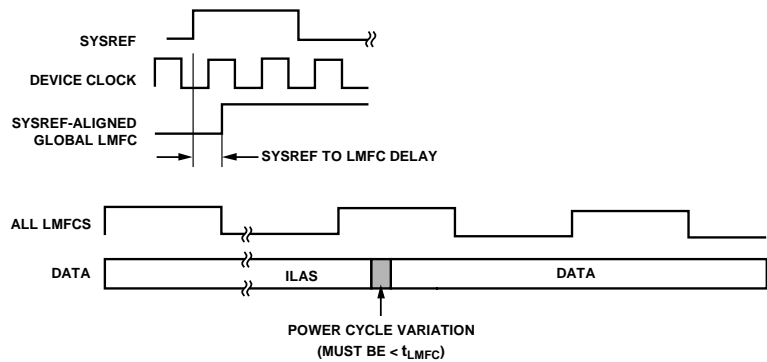

Figure 94. SYSREF and LMFC
The JESD204B protocol organizes data samples into octets, frames and multiframes, as described in the Transport Layer section. The LMFC is synchronous with the beginnings of these multiframes. In Subclass 1 operation, the SYSREF± signal is used to synchronize the LMFCs for each device in a link or across multiple links (within the AD9694, SYSREF± also synchronizes the internal sample dividers); see Figure 94. The JESD204B receiver uses the multiframe boundaries and buffering to achieve consistent latency across lanes (or even multiple
- The total latency variation across all lanes, links and devices must be ≤ 1 LMFC (t_{LMFC}) period (see Figure 94). This total latency includes both variable delays and the variation in fixed delays from lane to lane, link to link, and device to device in the system.